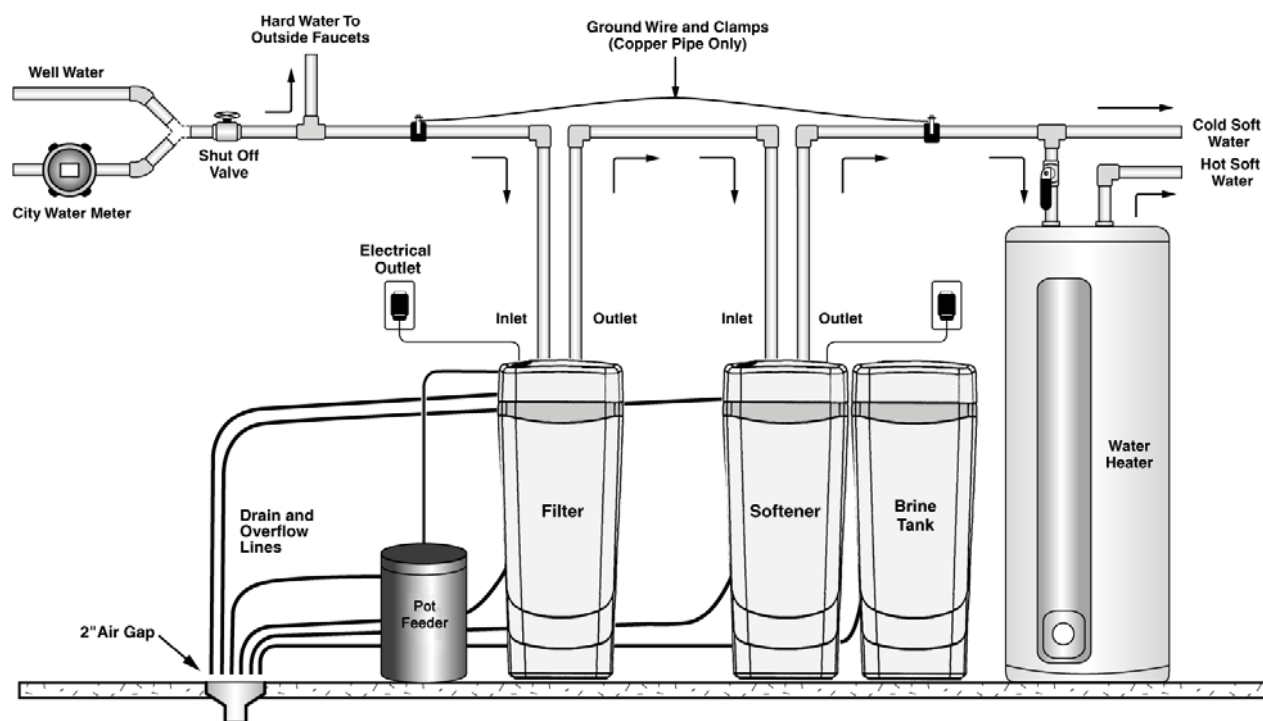

Figure 6: Iron Filter and Potassium Feeder Placement
**Note:** The iron filter should be installed after the pressure tank or water meter and before the water heater or any water softener appliance, unless otherwise recommended. See Figure 6. A minimum 3/4" pipe is required for proper function of the filter. Examine the inlet piping to make sure the pipe is not plugged with lime or iron. If the piping is plugged, it must be cleaned or replaced.
- C. See Figure 6 for feeder placement.